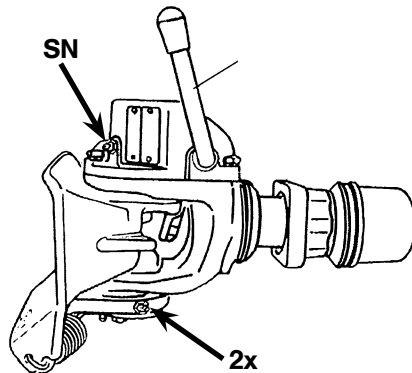

Fig. 6
- Lubricate via grease nipples (**SN**) (see Fig. 6).